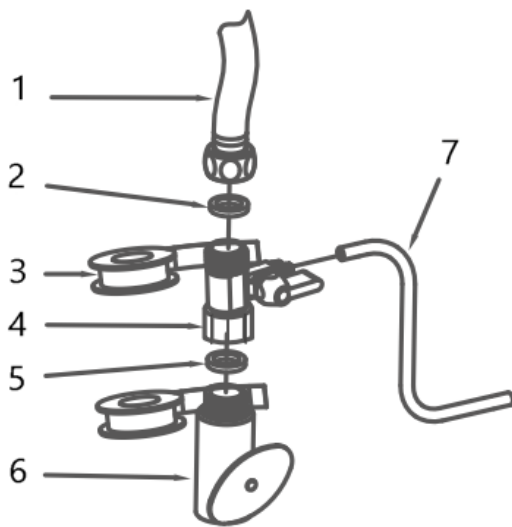

Fig.1
3. Connect the diverter valve to the feed water valve and the hose (Fig. 1)